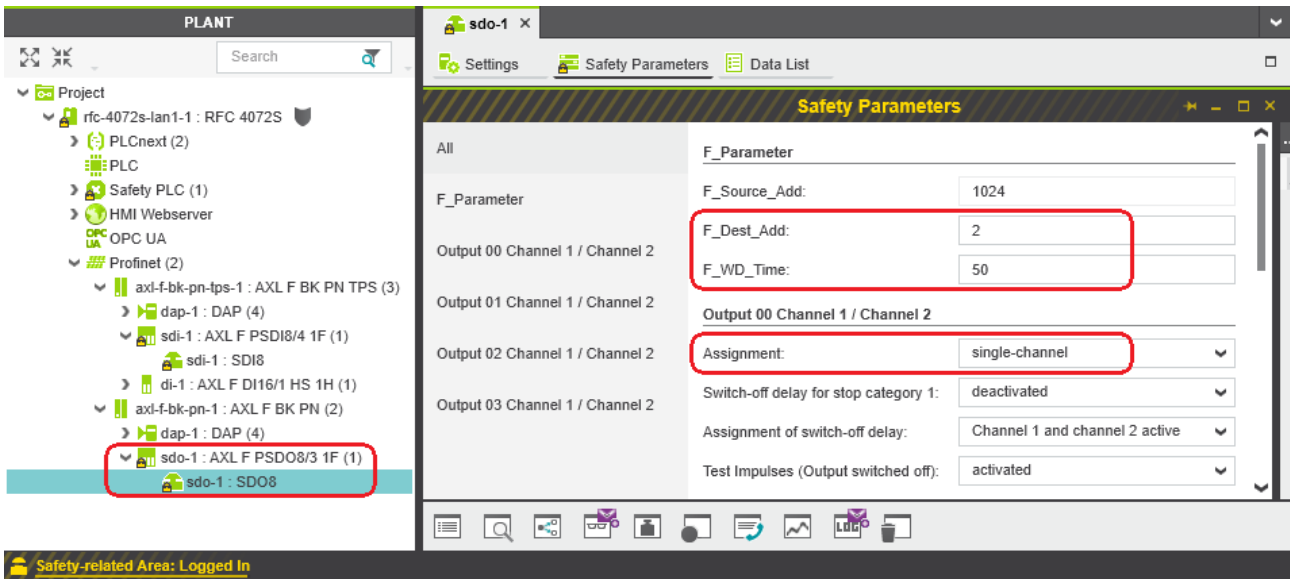

Figure 4-47 “Safety Parameters” editor: AXL F PSDO8/3 1F
- Under the “Profinet (x)” node in the “PLANT” area, double-click on the lower-level node of the safety module whose safety parameters you want to set (in the example in Figure 4-47 on page 132: AXL F PSDO8/3 1F).
- Set the required safety parameters. In the example in Figure 4-47, these are F-Address F_Dest_Add, watchdog time F_WD_Time, and the assignment of channels 1 and 2 of the outputs.